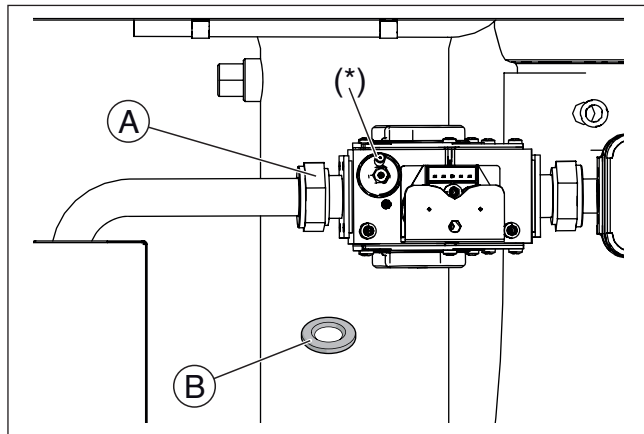

Fig. 23
- ▶ Unscrew the swivel joint 'A' indicated in Fig. 23 to separate the valve from the connection pipe with the fan
- ▶ Place the provided metal orifice 'B' (Fig. 23) between the two gaskets